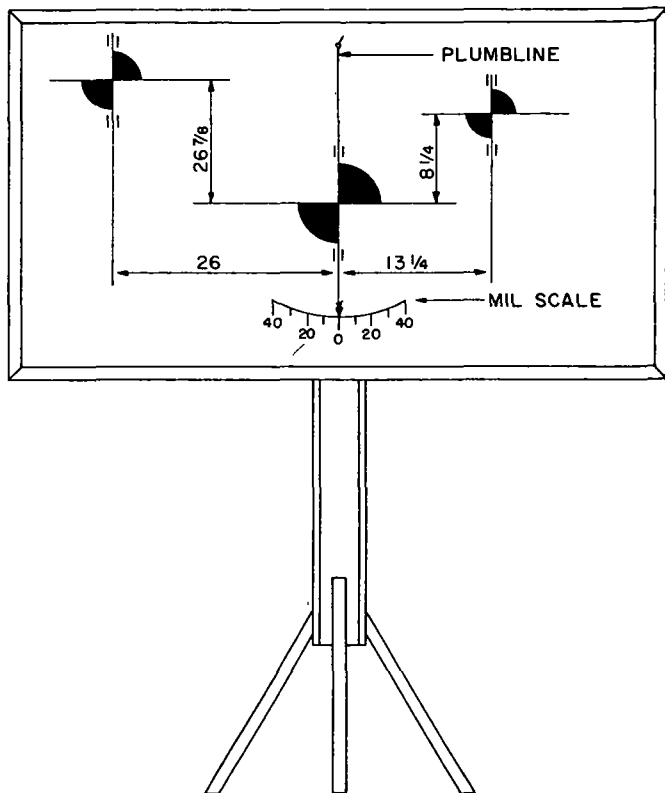

Figure 10. Testing target.
- (1) Check the gunner's aid to see that it has been set to zero, and adjust the azimuth and reset counters to read 3200.
- (2) Center the pitch level bubble by rotating the pitch level knob.
e. Place the testing target (fig. 10) 50 to 100 meters in front of the howitzer tube and position the target so that the bore diagram is alined in the boresights.
f. Adjust the panoramic telescope to the testing target (fig. 10).
- (1) By rotating the azimuth knob, adjust the vertical line in the reticle of the panoramic telescope on the testing target diagram. The azimuth counter should read 3200. If the azimuth counter does not read 3200, fully *depress* the boresight adjusting shaft and rotate the shaft until the azimuth counter reads 3200.
Page 34. Figure 10 is superseded as follows: